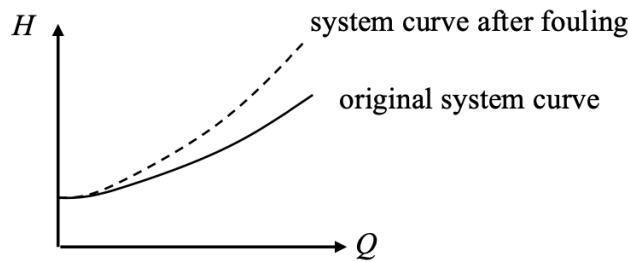
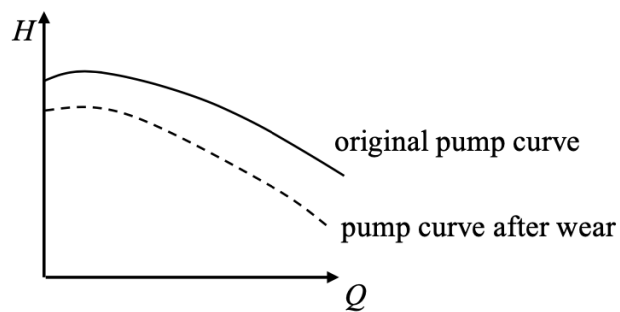

FIGURE 12.33. An illustration of the original system head curve and the system head curve after fouling.
FIGURE 12.34. An illustration of the original pump head curve and the pump head curve after wear.
- (3) The system curve may change over time due to fouling of the pipes and other factors \implies increased losses \implies the system curve becomes steeper, as shown in Figure 12.33. The pump curve may also change due to wear on the bearings, impeller, etc., as shown in Figure 12.34.